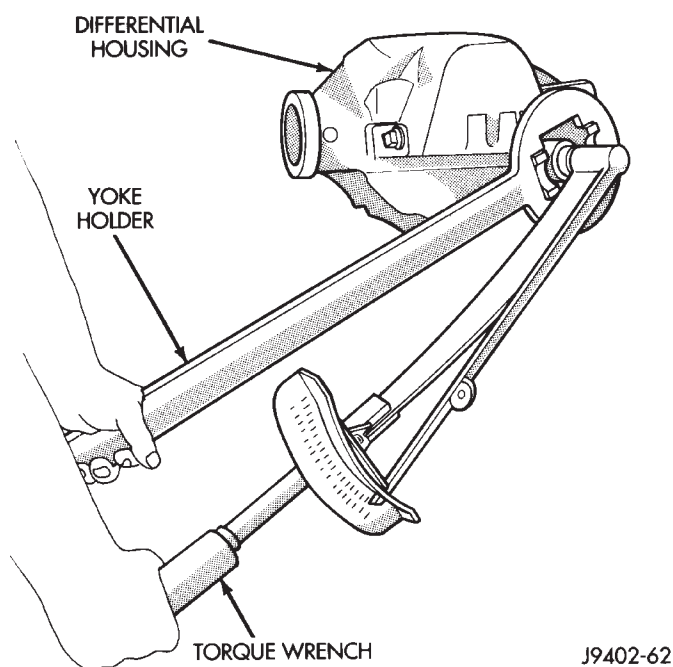

Fig. 17 Tightening Pinion Shaft Nut
(9) Hold pinion yoke with Yoke Holder 6719 and tighten shaft nut to 285 N·m (210 ft. lbs.) (Fig. 17). Rotate pinion shaft several revolutions to ensure the bearing rollers are seated.
(11) If the rotating torque is low, use Yoke Holder 6719 to hold the pinion yoke (Fig. 17) and tighten the pinion shaft nut in 6.8 N·m (5 ft. lbs.) increments until proper rotating torque is achieved.